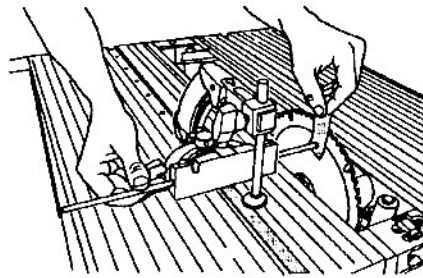

Fig. B-18
19. Insert an ordinary piece of notebook paper between the saw blade and the rod at the "X" mark on the blade, as shown in Fig. B-18.